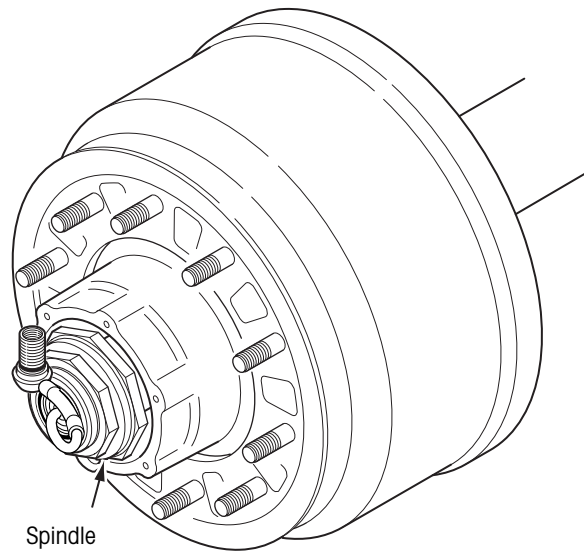

Figure 15. Completed installation of rotary joint assembly
- Check the orientation of the breather notch in the rubber collar. Make sure it aligns with the flat on the rotary joint body. Orient the flat on the rotary joint body (located near the clamp) to the 12 o'clock position and press the rotary joint assembly into the spindle bore. The assembly is seated when the outer edge is almost flush with the end of the spindle (figure 15).